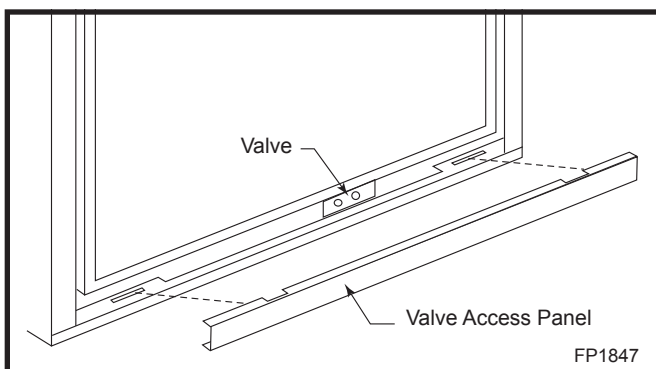

Fig. 37 Remove valve access panel.
3. Remove the valve access panel. (Fig. 37)